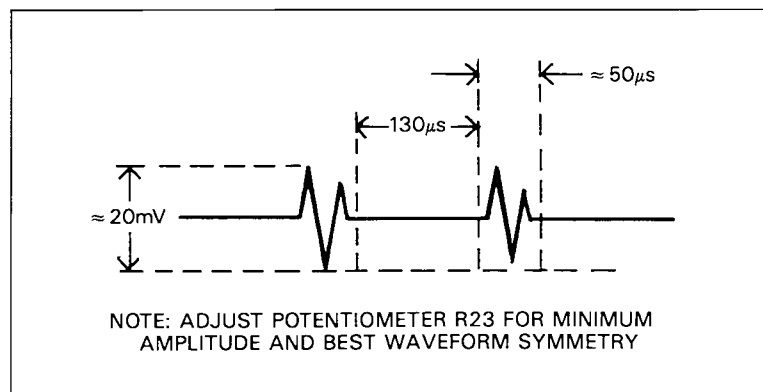

Figure 4-7. Common Mode Adjustment Waveform
3. Set the oscilloscope time base and input attenuator to view the waveform shown in Figure 4-7.